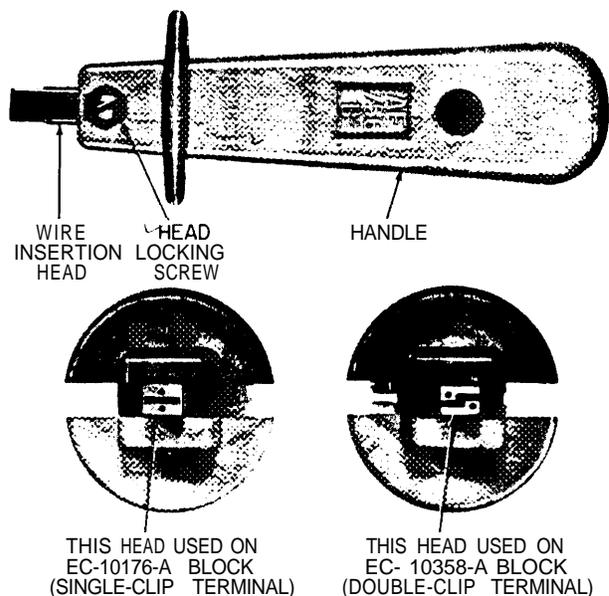

Figure 6. Wire insertion Tool (EC-10192-A).
4.01 The EC-10192-A wire insertion tool (see Figure 6), is used to insert wires into the terminals of the quick-connect type blocks. This tool is designed for use on the single- or double-clip quick-connect terminal blocks. Even though the insertion tool appears similar to other wire insertion tools, it is not. These tools cannot be interchanged as resultant damage to either the terminals or to the jumper wires is likely to occur.
4.02 As shown in Figure 6, the wire insertion tool is equipped with a double sided insertion head. One side of the head is used for inserting wire into the single-clip quick-connect terminals and the other side is used for inserting wire into the double-clip quick-connect terminals. To change the insertion head, the head locking screw at the tip of the handle must be loosened. The head can then be rotated to the desired position. Tighten the head locking screw to secure the head.